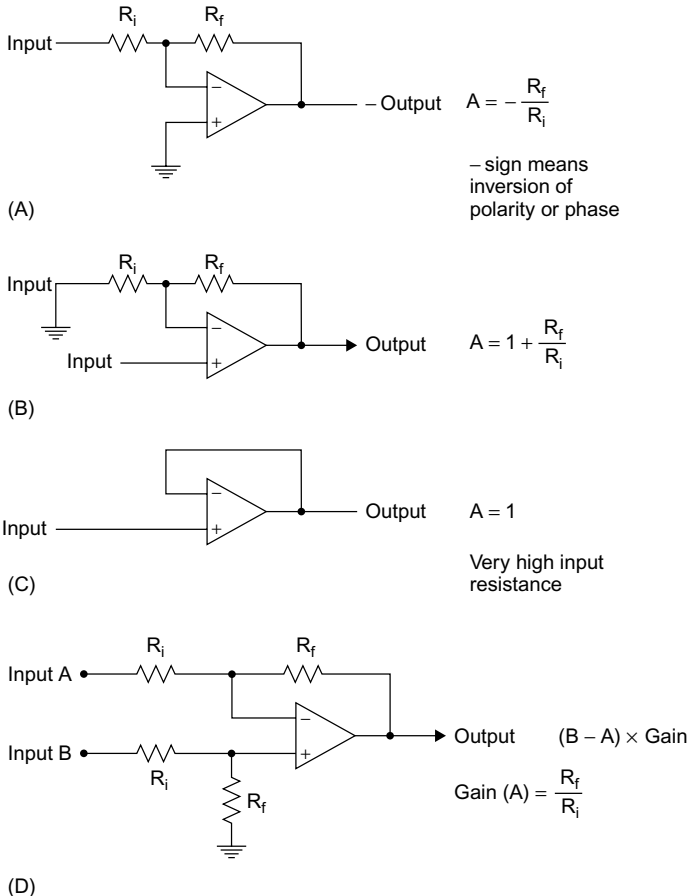

FIGURE 4.8 Most commonly used op amp circuit configurations. (A) Inverting amplifier. (B) Noninverting amplifier. (C) Follower. (D) Differential amplifier.
Figure 4.8 shows the most common op amp configurations. In most cases, the resistors are external to the IC amplifier. Note that the gain is determined by the values of the external resistors. Note formulas for gain (A).